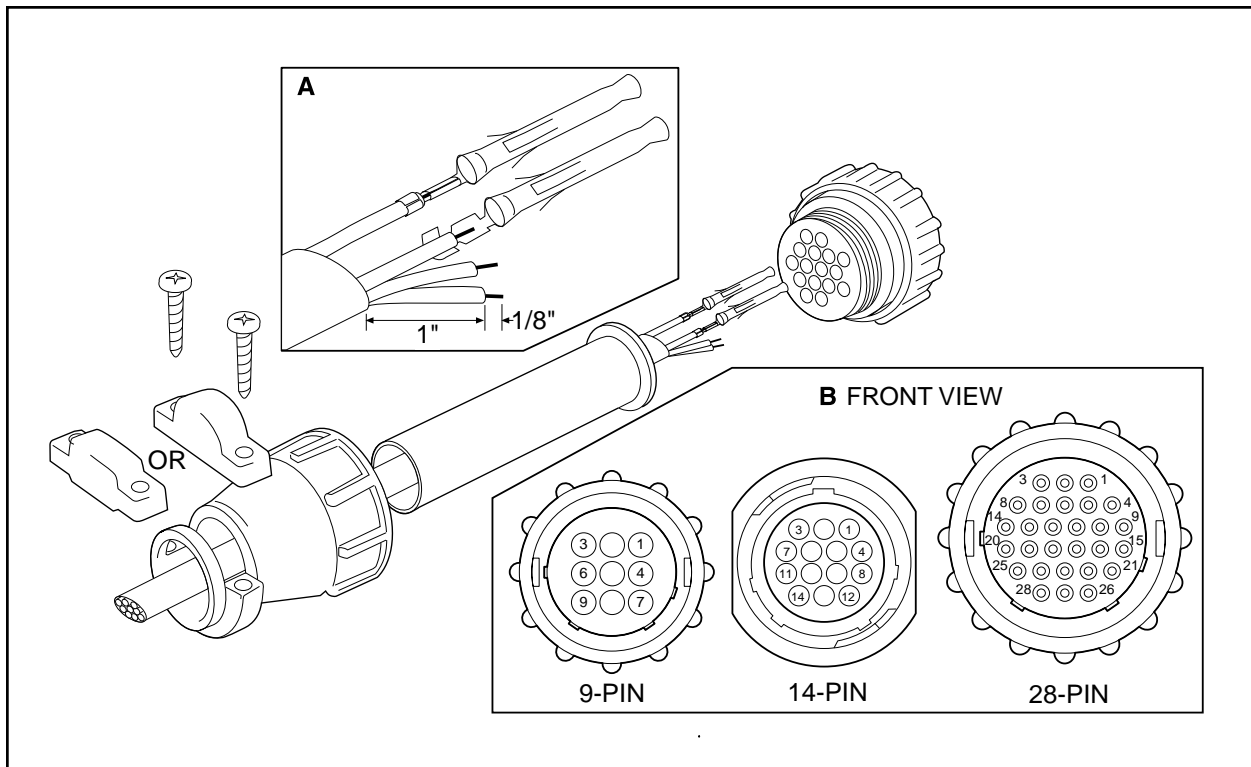

Figure 1. Connector Assembly
To assemble the mating connectors, refer to Figure 1 and perform the following steps.
2. Refer to Detail A in Figure 1. Prepare the wires from the conductor cable as follows:
3. Slide the connector pins into the appropriate holes in the connector body until they snap into place. Refer to detail B in Figure 1 and to Figures 2-4 for correct pin arrangement, depending on model and options.